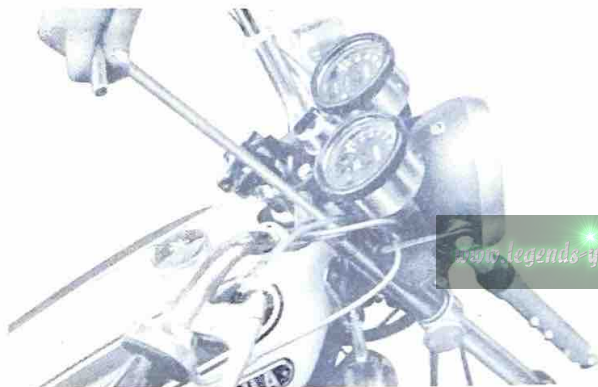

Fig. 5-7-7
- (2) Mounting the Front Fork on the Chassis
- a. Pull the front fork upward by using the front fork puller, and tighten the under-bracket clamping bolt. (Fig. 5-7-7)